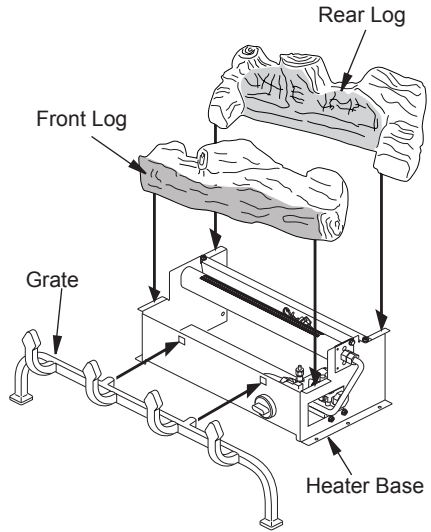

Figure 22 - Installing Grate and Logs
1. Place grate into square holes on heater base as shown in Figure 22.
2. Place front log on burner so that it sits between grate fingers and burner (see Figure 22).
3. Place rear log so that locating projections fit inside mating holes on back of front log. The log should rest behind the metal burner (see Figure 22).